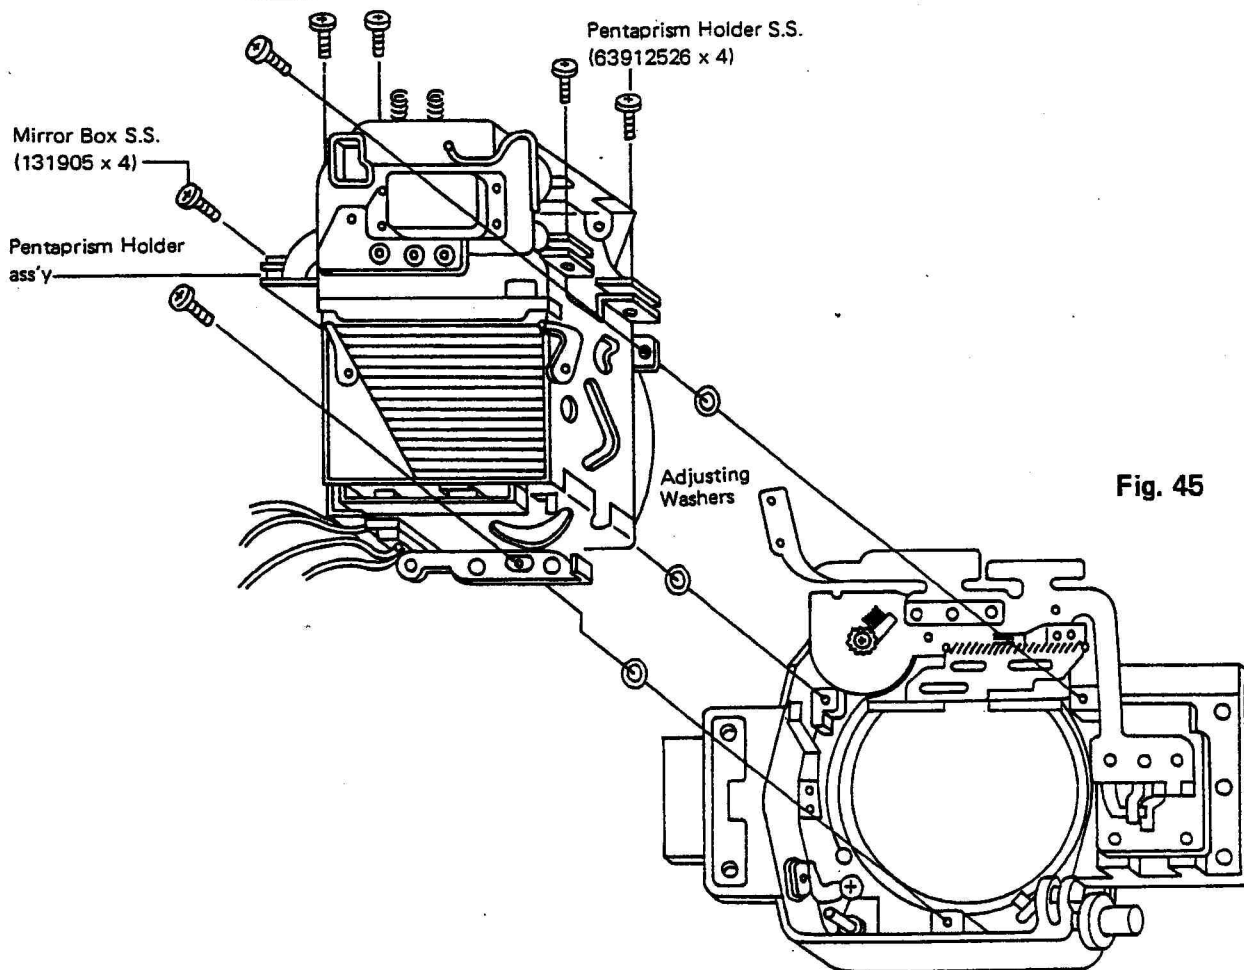

Fig. 45
j) Remove the Pentaprism Holder S.S. (63912526 x 4) and the Pentaprism Holder Ass'y from the Mirror Box Ass'y shown in (fig. 45).